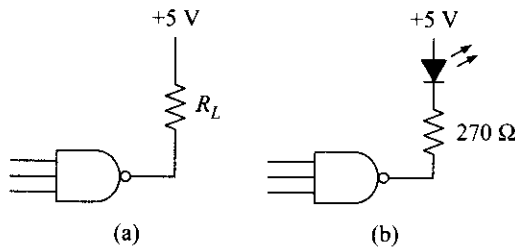

Fig. 14.31 (a) TTL output drives load resistor, (b) TTL output drives LED
17. What is the purpose of the diode in Fig. 14.31?